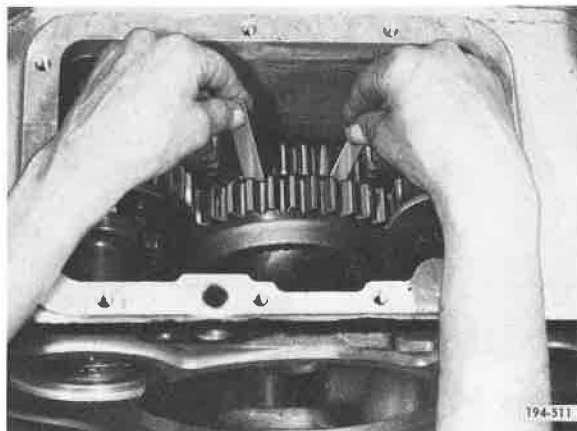

Figure 385. Measuring End Play
21. Position front compound horizontally. Using two identical feeler gauges inserted between compound main drive pinion and Lo-range gear, check for 0.010 to 0.020 inch end play clearance (reference Torque and Tolerance Table, Item 24). See Figure 385.